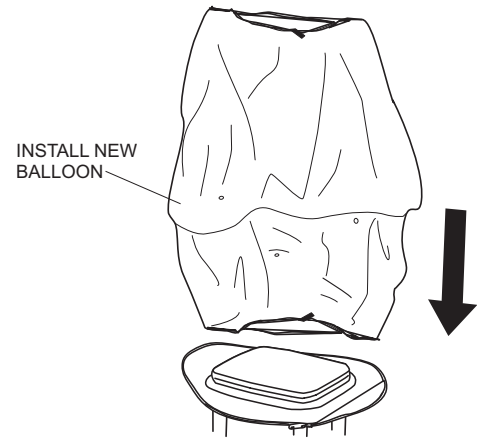

Figure 42. Replacing Balloon
3. Slide in the new replacement balloon over the top of the lamp guard assembly. See Figure 42.